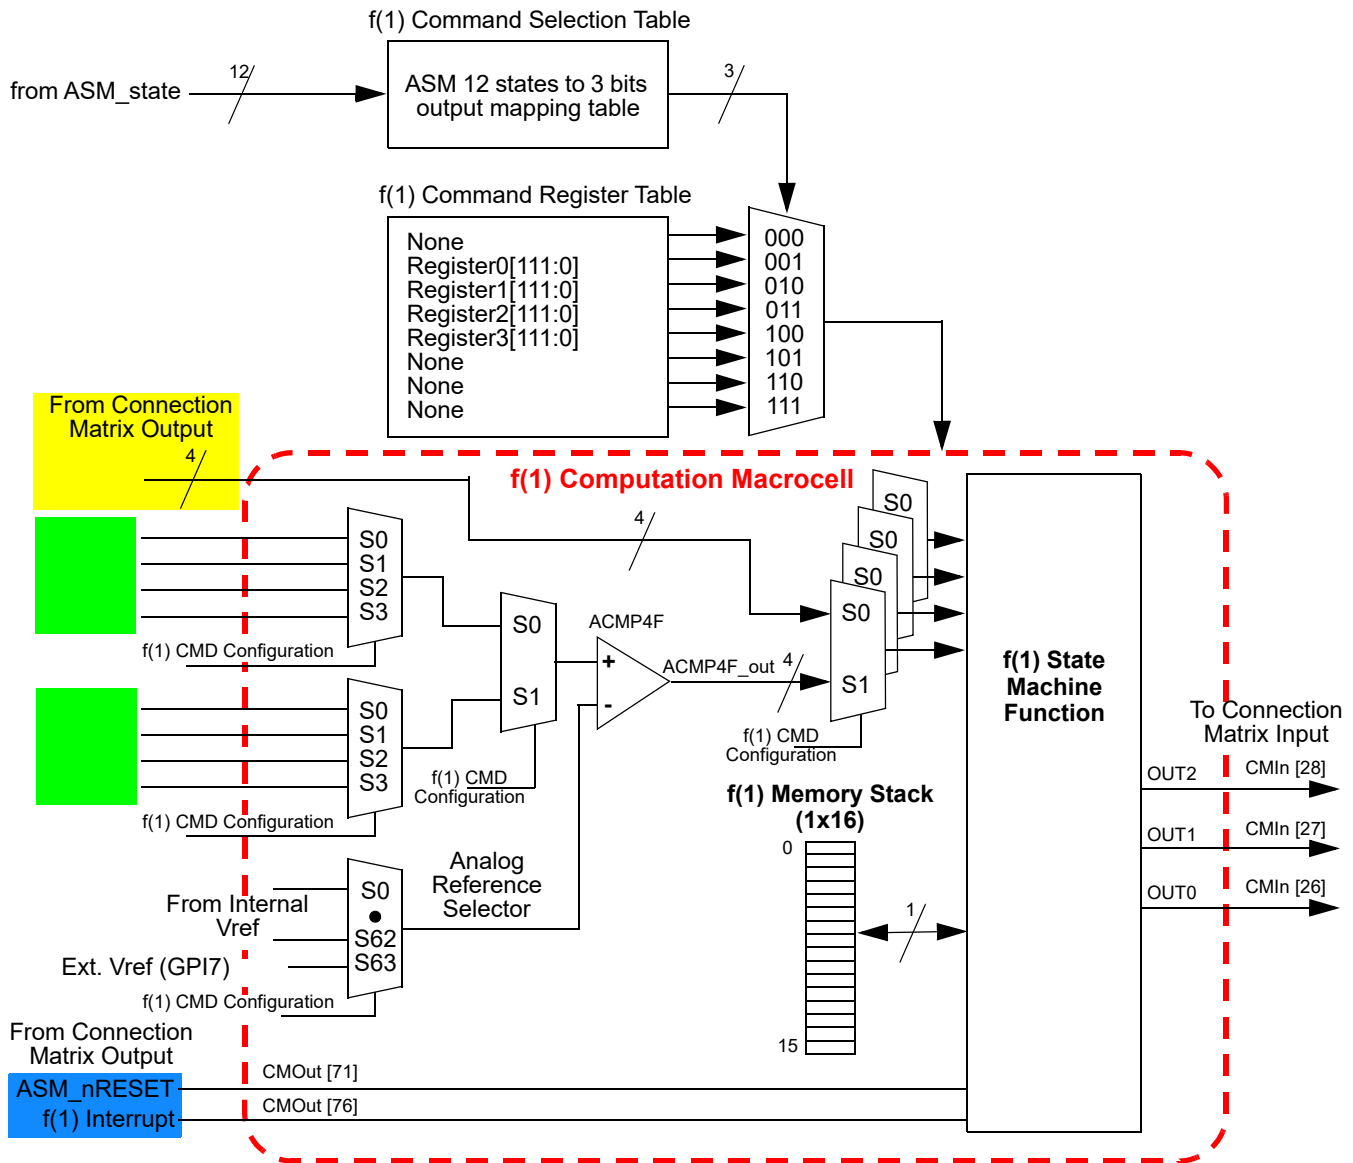

Figure 120: f(1) Computation Macrocell Input Signals
17.3 F(1) COMPUTATION MACROCELL INPUT SIGNALS
The f(1) Computation Macrocell has 6 digital input signals, ASM\_nReset, f1\_Interrupt, and four inputs from Connection Matrix outputs. An active signal on either of the first 2 inputs will immediately halt any command execution for the f(1) Computation Macrocell, and will immediately relinquish control back to the ASM macrocell. The ASM\_nReset is a level sensitive signal, and active low. The f1\_Interrupt is a level sensitive signal, and active high. These signals are shown in Figure 120, highlighted in blue. Also there are 4 digital inputs from the Connection Matrix, which can be routed to any Connection Matrix outputs from the f(1) Commands. These signals are shown on Figure 120, highlighted in yellow.